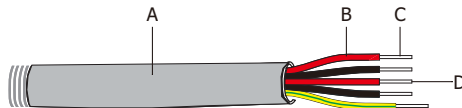

Figure 4.3-3 Ac connection line
Step 1. Prepare the terminals and AC cables as below. See Figure 4.3-3.